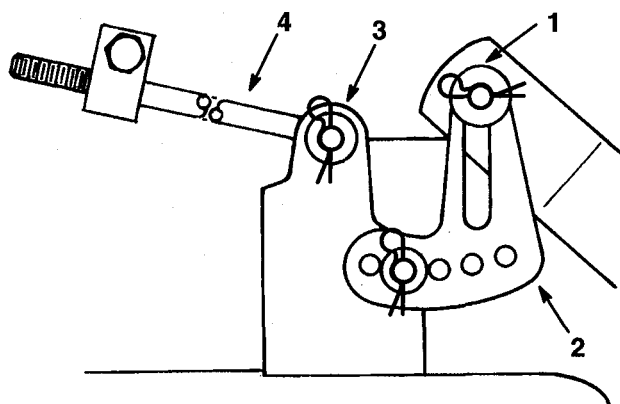

Figure 42
8. Remove the hair pin cotter and washer at the top of the mower leveling bracket (Fig. 42). Now slide the bracket off the mounting pin. Repeat this step on the opposite side of the mower.
9. Remove the hair pin cotter and washer from the end of the long rod (Fig. 42). Now slide the rod out of the mower mount. Repeat this step on the opposite side of the mower.